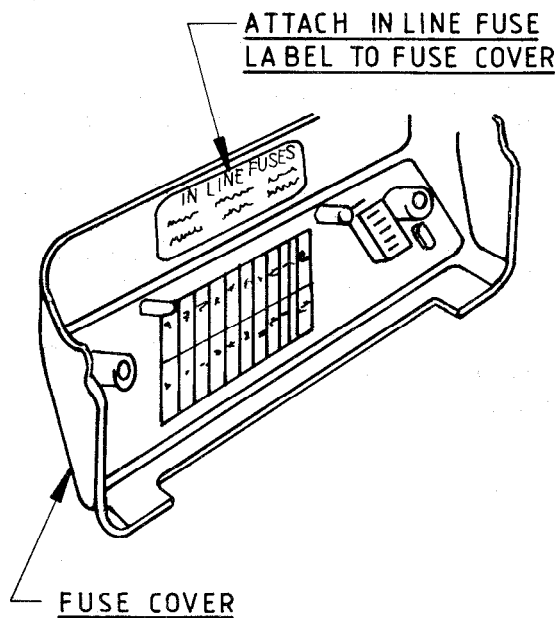

FIG 2 - FUSE COVER
- g. Remove the white cable that connects the dimmer switch to the main harness and replace it with the 5 amp fused cable link (item 4 from Table 1).
- h. Interlock the fuse holders with a cable tie (item 2 from Table 2).
- i. Attach the label (item 5 from Table 1) to the inside surface of the fuse cover as shown in Fig 2.